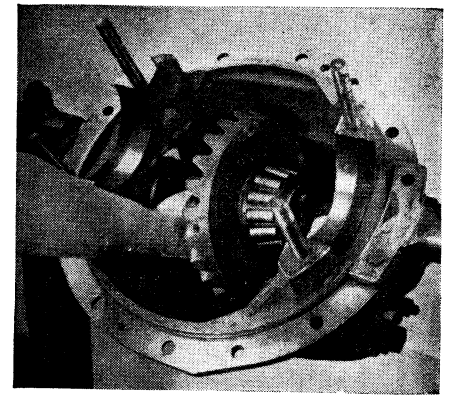

Fig. 59 Removing cross shaft assembly
17. Thread out cross shaft assembly, Fig. 59.